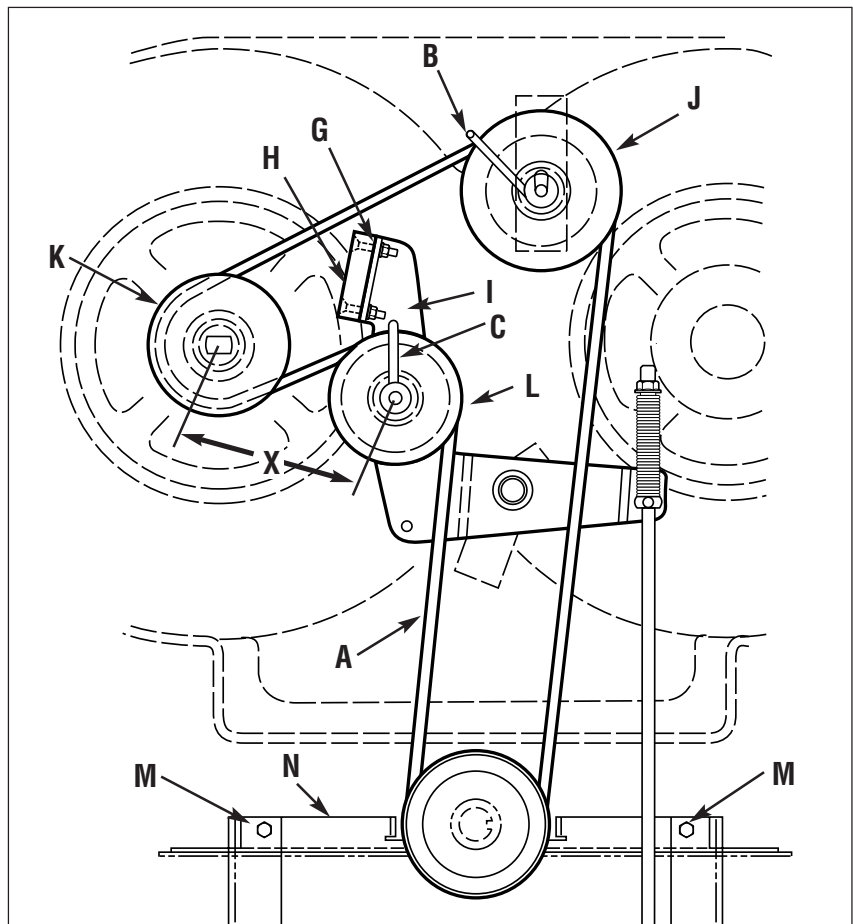

Figure 5-8: Blade drive.
- 4.** Loosen belt guides (B and C, Figure 5-8).
- 5.** Move flap bracket (N, Figure 5-8) out of the way by loosening two screws (M).
- 6.** Remove belt (A, Figure 5-8) from around sheaves.
- 1.** Route belt (A, Figure 5-8) around sheaves as shown.
- 3.** With the Blade Drive Control lever engaged, adjust and tighten belt guide (B) to $1/32 - 1/16$ " away from tensioned belt. (Be sure that belt does not contact belt guide when belt is under tension.) Secure belt guide (C) rotated into position as shown in Figure 5-8.
- 5.** Re-tighten two screws (M, Figure 5-8) that secure flap bracket (N).
3. Remove hardware (G, Figure 5-8) securing blade brake (H).
4. Remove old brake (H) from idler arm (I).
8. Engage the blade drive and measure the distance (X, Figure 5-8) between the centers of pulleys (K) and (L). The distance should be 5-1/2 to 5-5/8". After obtaining the correct dimension, reinstall the belt cover securely and test the operation of the blade brake.